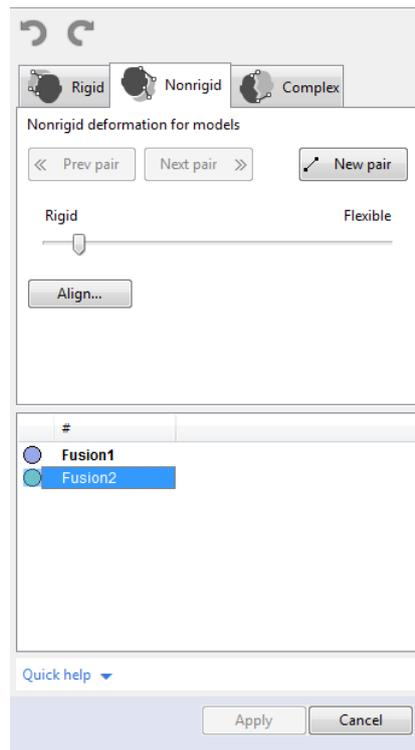

Figure 69: Align panel: Nonrigid tab.
1. Make sure the *Nonrigid* tab is selected (see Figure 69).